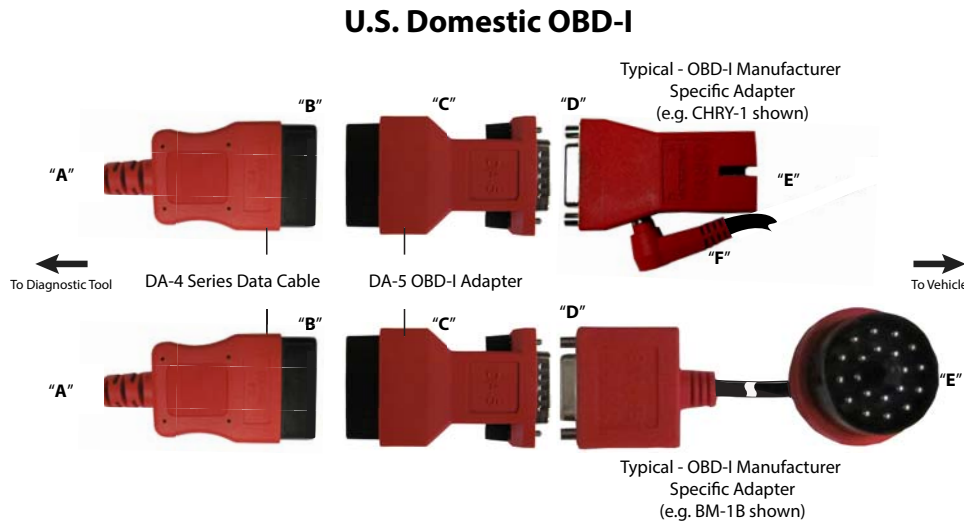
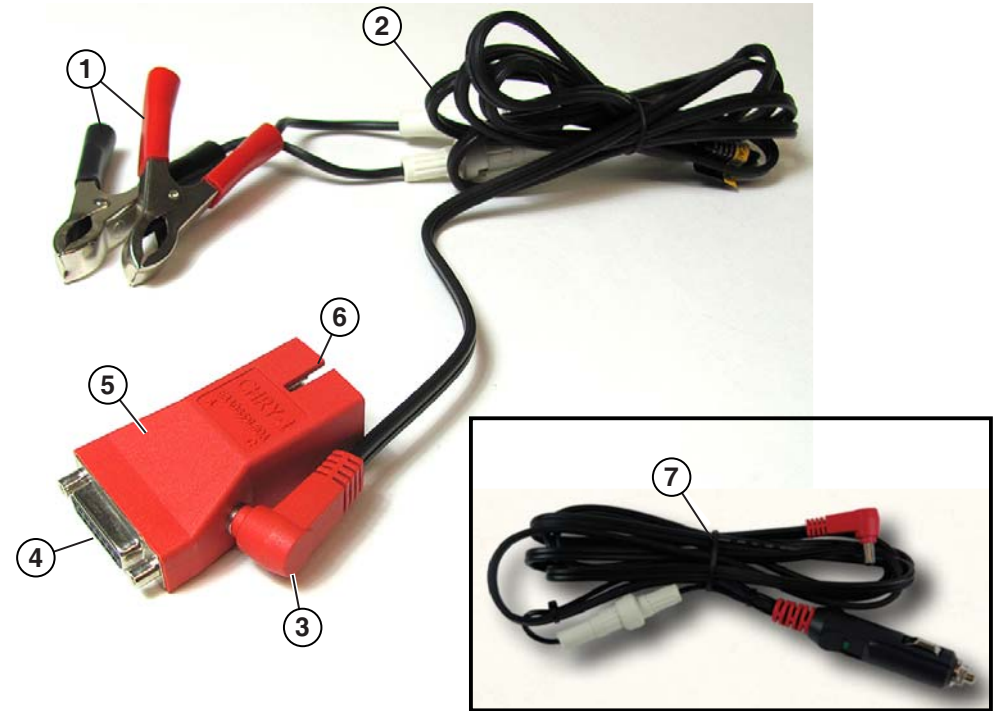

Figure 3-4
Figure 3-5
For most OBD-I (non-OBD-II/EOBD) compliant vehicles you can use the supplied data cable with the optional DA-5 adapter, and an optional manufacturer specific OBD-I adapter (Figure 3-4).
- a. The 26-pin end "A" of the cable (Figure 3-4) connects to the diagnostic tool.
- b. The 16-pin end "B" of the cable (Figure 3-4) connects to the DA-5 adapter "C".
- c. One end of the manufacturer specific adapter "D" (Figure 3-4) connects to the DA-5 adapter.
- d. The other end of the manufacturer specific adapter "E" (Figure 3-4) connects to the vehicle.
OBD-I adapters with a power jack MUST be connected to the vehicle battery using an accessory power cable "F" (Figure 3-4). See Figure 3-5 for additional information.
Figure 3-5 shows a typical OBD-I adapter (with power jack). This type of adapter MUST be connected to the vehicle battery, using either of the power cables shown.